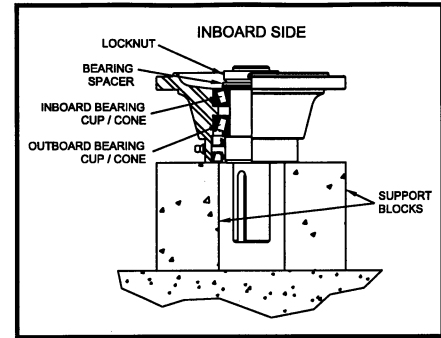

Figure 6.3.2.1 Input Endbell
2. Support hub to expose the inboard side of the endbell. Reference Figure 6.3.2.1 (next column).